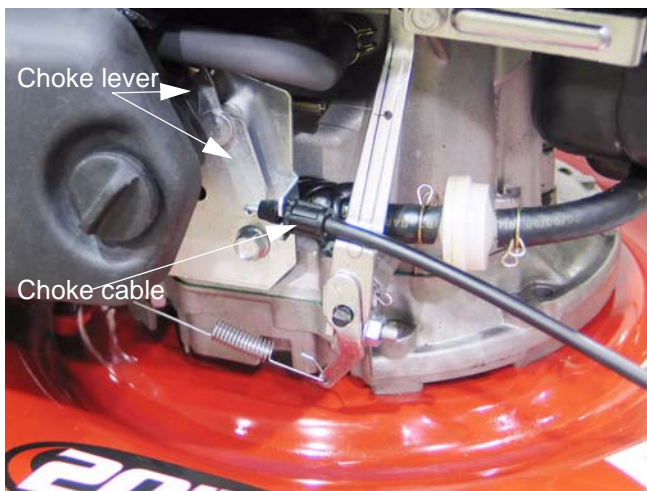

Figure 8.6
- 8.6. All models are equipped with a manual choke, operated by a pull-knob on the handlebar. See Figure 8.6.